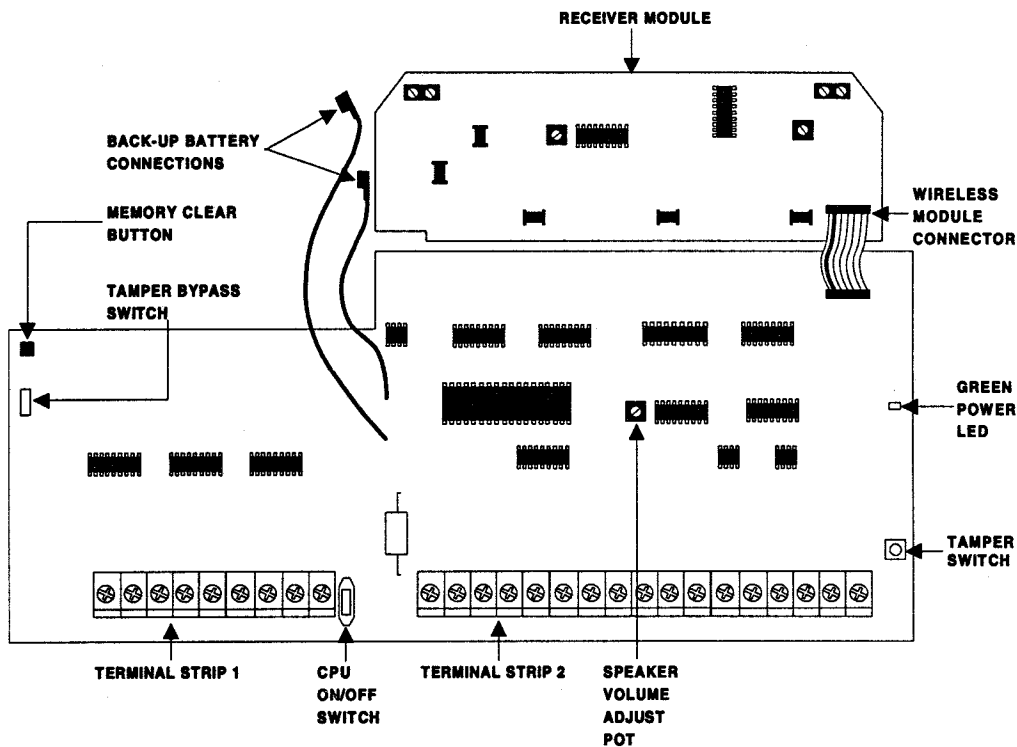

Figure 3.1. CPU Board Components
- A diagram of the CPU board and main components (Figure 3-1), followed by descriptions of components in Table 3.1.